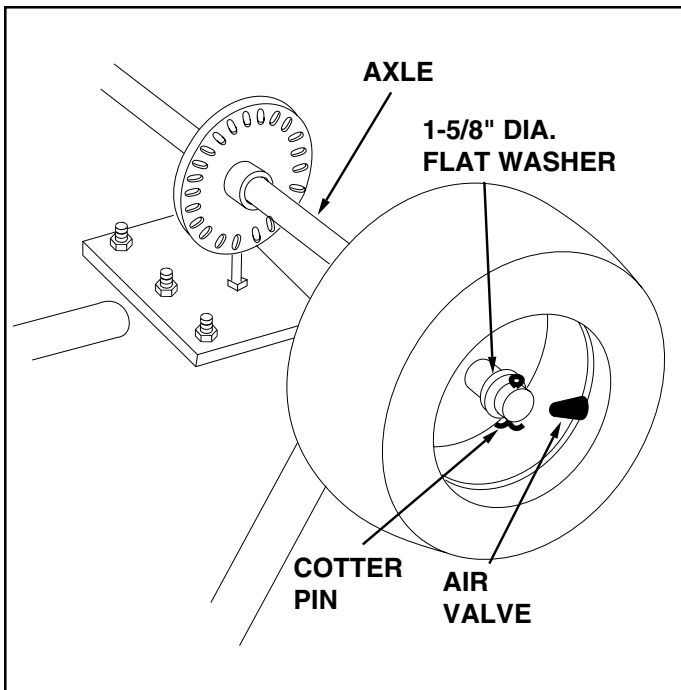

FIGURE 6
- Place wheel assembly without hole through hub (air valve to the outside) onto axle end having the smallest and secure with 1-5/8" dia. flat washer and 1/8" x 1-1/2" cotter pin. See figure 6. Use extra 1-5/8" diameter flat washer if needed to take up play.